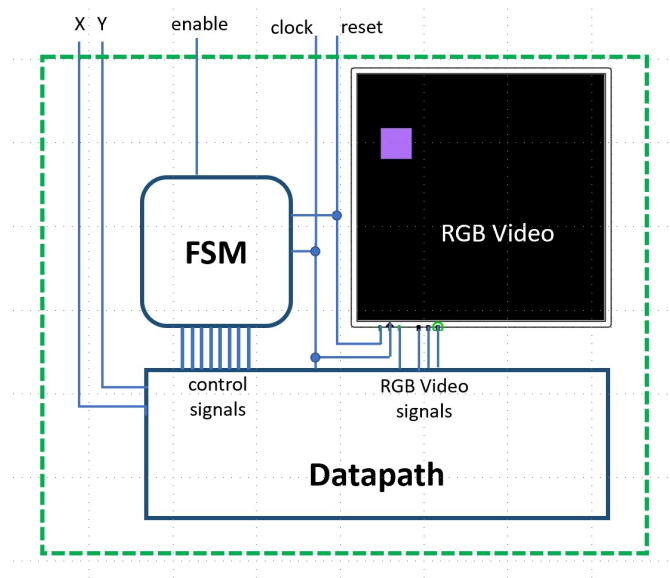

Figure 5: Design Overview - State Machine, Datapath and RGB Video.
The high-level design of the circuit for the system is given in Figure 5. It contains 3 major blocks:
3. A finite state machine that serves as a controller for the datapath. The datapath control signals are illustrated in Figure 5, however the number of control signals and what they control will depend on the structure of your datapath.